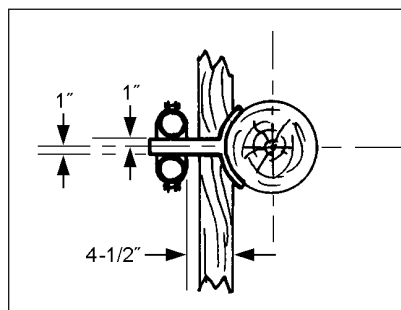

Figure 2.3
- 2.3. When two conduits are installed they shall be spaced out 4-1/2" from the face of the pole and separated 2", providing a clear space 1" on each side of the center line of the pole lead. (Fig. 2.3)